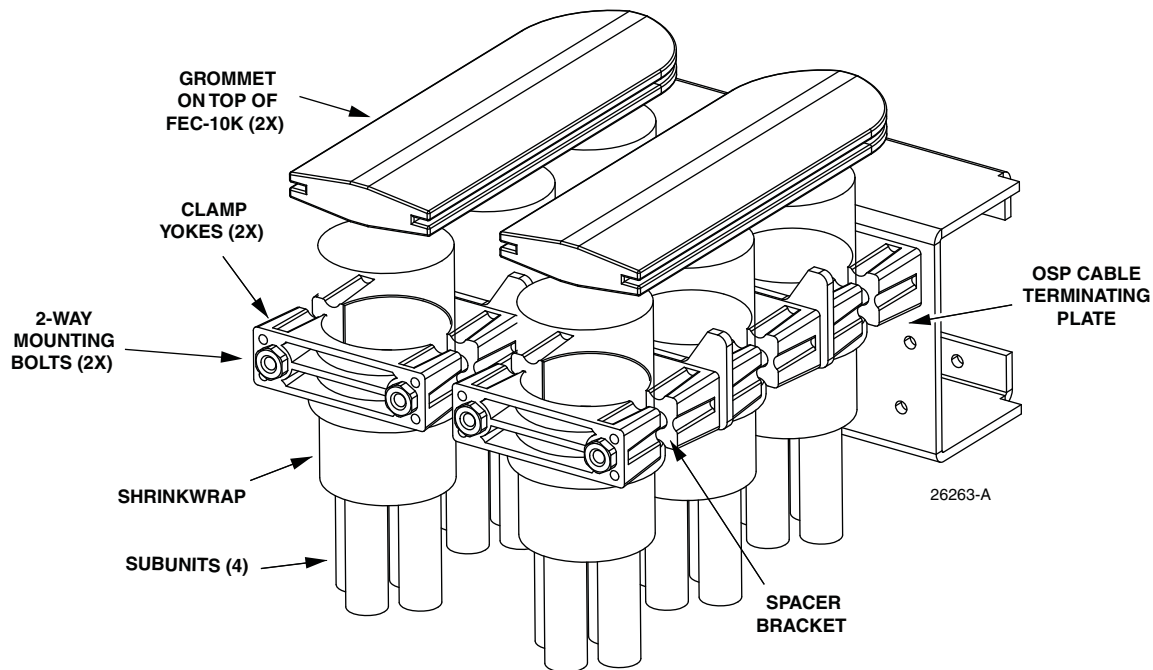

Figure 17. Cable Clamps Fully Stacked
- j. If the cable being installed is not the first cable, follow all of the alpha steps above secure it with a cable clamp as with the first cable. Figure 17 shows a fully utilized cable termination plate with six cable clamps installed in two stacks of three clamps.